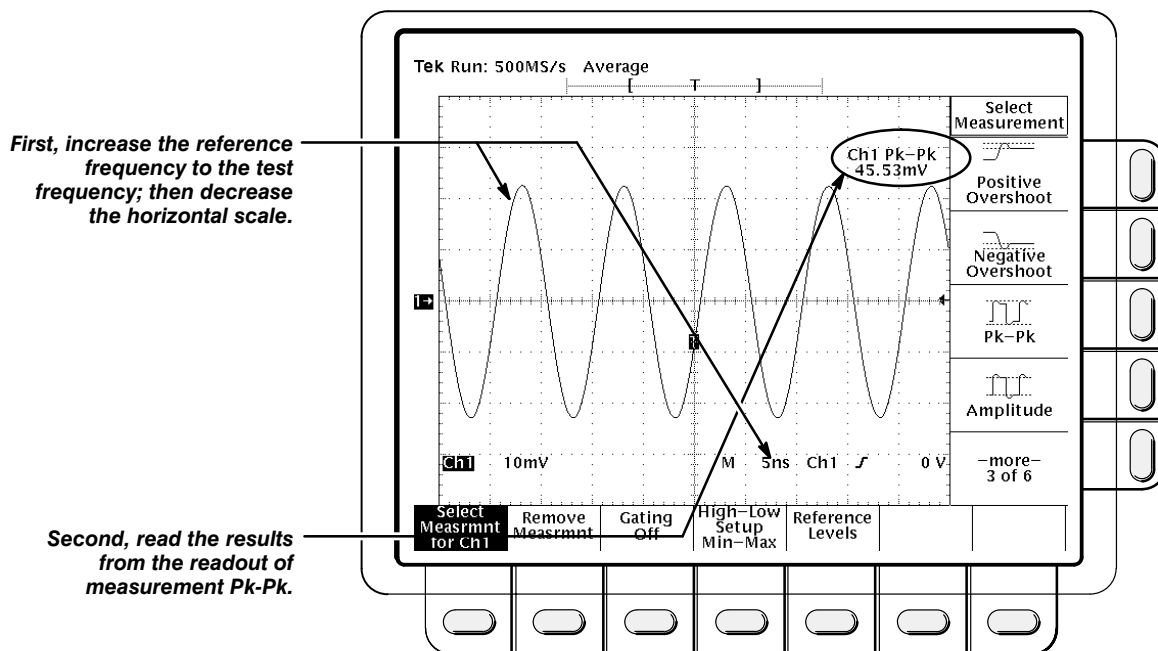

Figure 6-6: Measuring Analog Bandwidth
13. Check that the **Pk-Pk** readout on screen (as shown in Figure 6-6) is  $\geq 42.5$  mV.